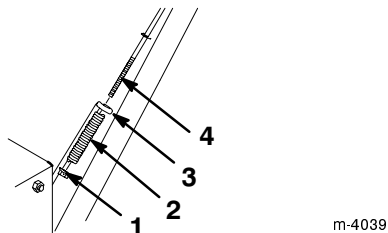

Figure 7
3. Hold the handles in the installation position and insert the traction rod through the loop in the lower traction rod (Fig. 7).
1. Slide the spring onto the bottom of the traction control rod (Fig. 7).
2. Thread a flange locknut (flange side up) onto the bottom of the traction control rod below the spring (Fig. 7).